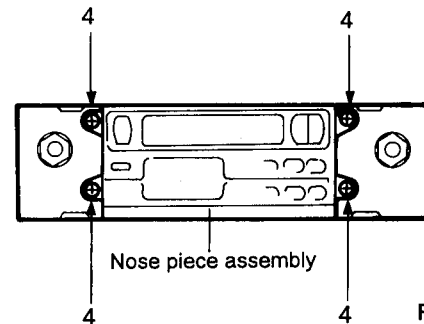

Fig. 2-4
■ Nosepiece assembly (Figs. 2-4)
- Remove four screws (4) retaining the nosepiece assembly from the front of the set.